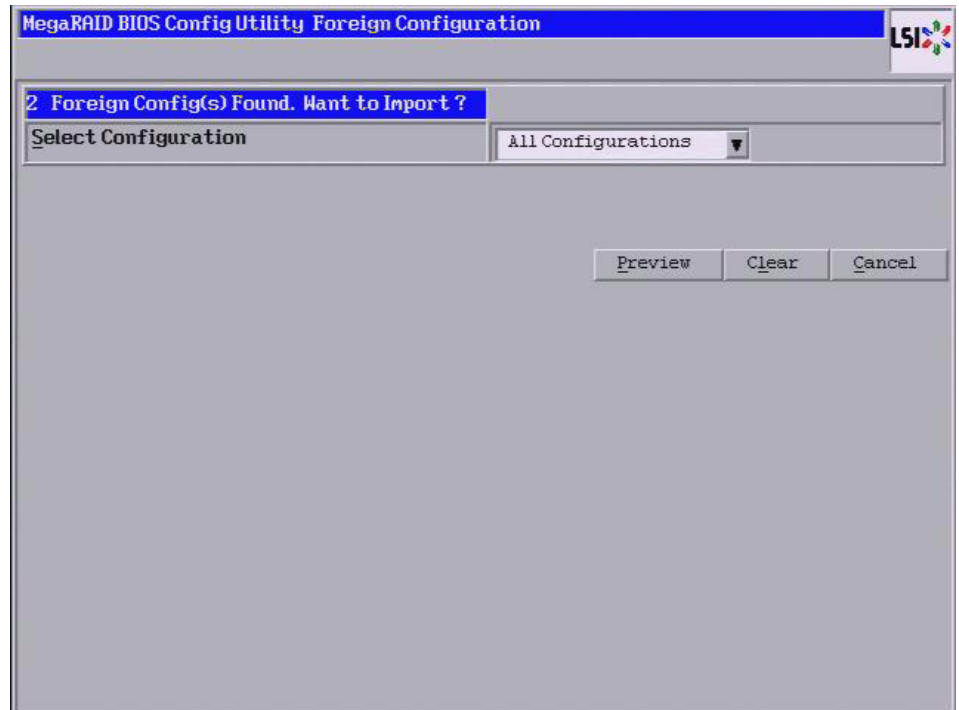

Figure 148: Foreign Configuration Dialog
If WebBIOS configuration utility detects a foreign configuration, the Foreign Configuration dialog appears, as shown in Figure 148.
4. Click **Import** to import these foreign configurations and use them on this controller. If you click **Cancel**, you return to the dialog shown in Figure 148.